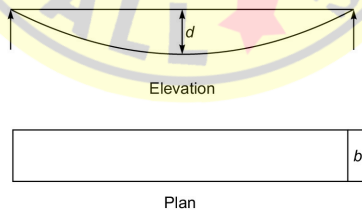

Fig. 5.4 Beam of uniform strength for simply supported beam subjected to UDF
- * Figure 5.4 shows a beam of uniform strength for central concentrated load on a simply supported beam.